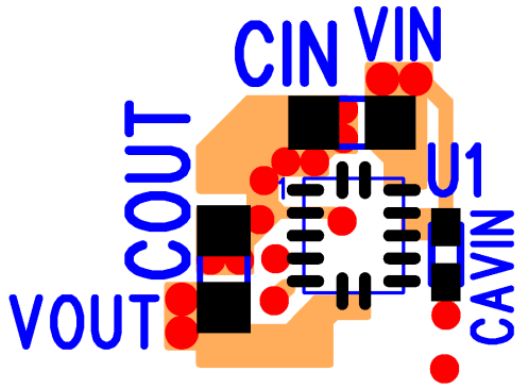

Figure 4: Top PCB Layer Critical Components and Copper for Minimum Footprint
Figures 4 and 5 show critical PCB top and bottom layer components and traces for a minimum-footprint recommended EP5348 layout with  $ENABLE$  tied to  $V_{IN}$ . Alternate  $ENABLE$  configurations need to be connected and routed according to specific customer application. This layout consists of four layers. For the other 2 layers and the exact dimensions, please see the Gerber files at <https://www.intel.com/enpirion>. The recommendations given below are general guidelines. Customers may need to adjust these according to their own layout and manufacturing rules.
**Recommendation 3:** Multiple small vias should be used to connect ground terminal of the input capacitor and output capacitors to the system ground plane. It is preferred to put these vias along the edge of the GND copper closest to the +V copper. These vias connect the input/output filter capacitors to the GND plane, and help reduce parasitic inductances in the input and output current loops. See Figure 4. If the two vias cannot be put under  $C_{IN}$  or  $C_{OUT}$ , then put two vias right after the capacitors next the  $V_{IN}$  and  $V_{OUT}$  vias.
**Recommendation 5:** AVIN is the power supply for the small-signal control circuits. It should be connected to the input voltage at a quiet point. In Figure 4 this connection is made at the vias just before  $C_{IN}$ . There is an additional decoupling capacitor  $C_{AVIN}$  for AVIN which is connected between the device pin and the GND plane.
**Recommendation 7:** The top layer 1 metal under the device must not be more than shown in Figure 4. As with any switch-mode DC/DC converter, try not to run sensitive signal or control lines underneath the converter package on other layers.